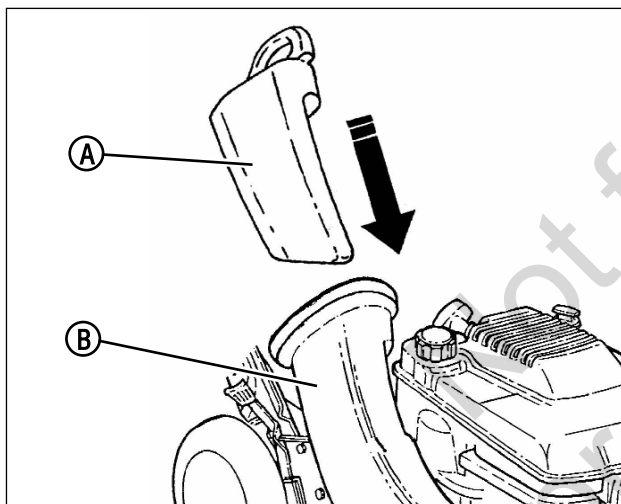

Figure 11: Installing the mulching plug
1. Install the mulching plug (A, Figure 11) if mulching is desired after the bag adapter is installed. Install the mulching plug completely and securely into the bag adapter (B).